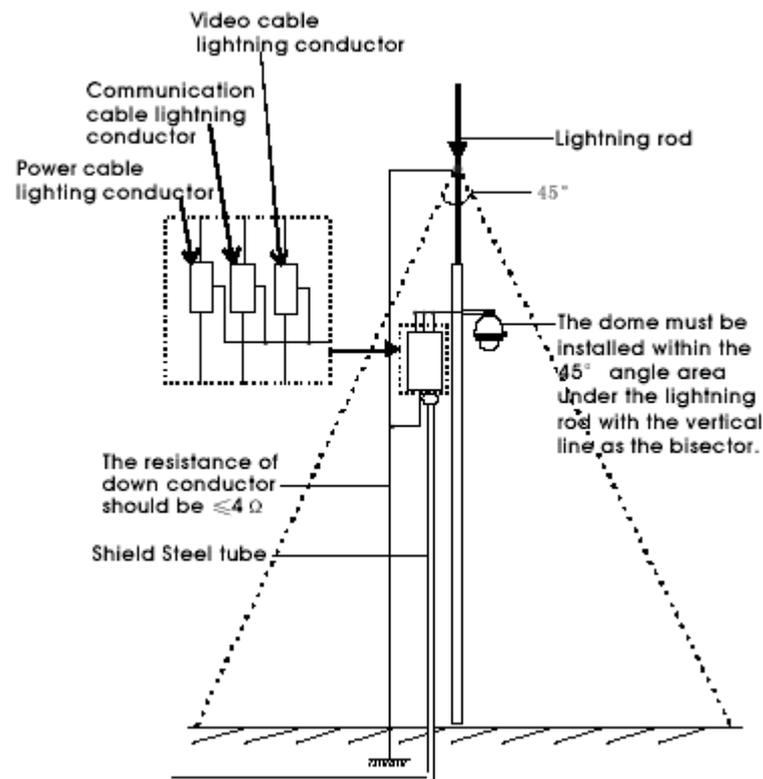

Figure 36
- I The system must be grounded with equal potentials. The earth ground connection must satisfy anti-interference and electrical safety requirements and must not short circuit the high voltage electricity network. When the system is grounded separately, the resistance of the down conductor should be  $\leq 4 \Omega$  and the sectional size of the down conductor should be  $\leq 25\text{mm}^2$  (refer to Fig 36).